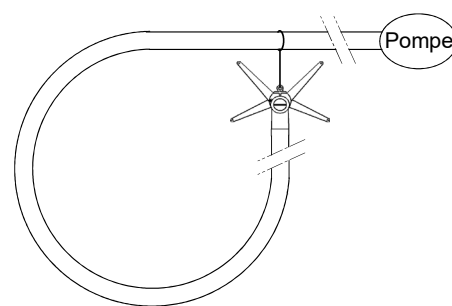

Fig. 6
- **3** - If you do not have solid support, the monitor may be secured to the water supply hose (Fig. 6).